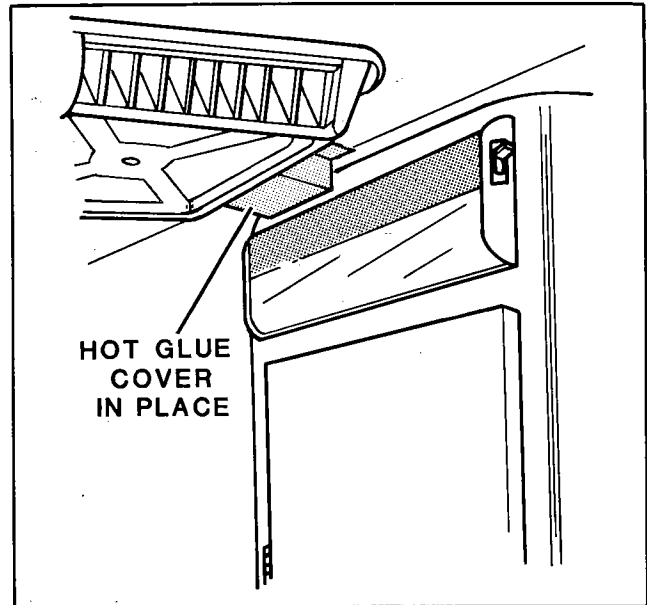

Figure 34. Wire Cover Installation
19. Hot glue wiring cover in place (figure 34). Hot glue loose wires to closet wall.